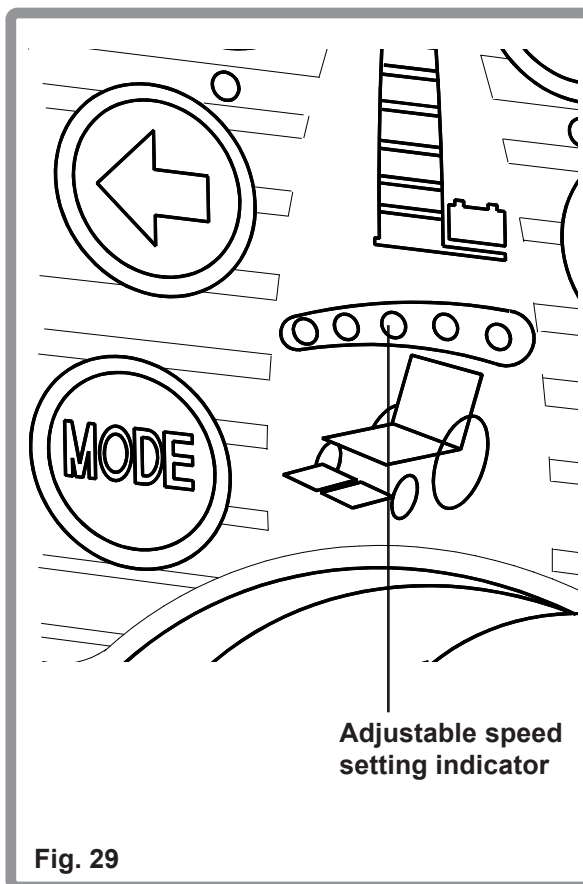

Fig. 29
1. Press the mode button until the speed settings indicator is flashing (Fig. 29).